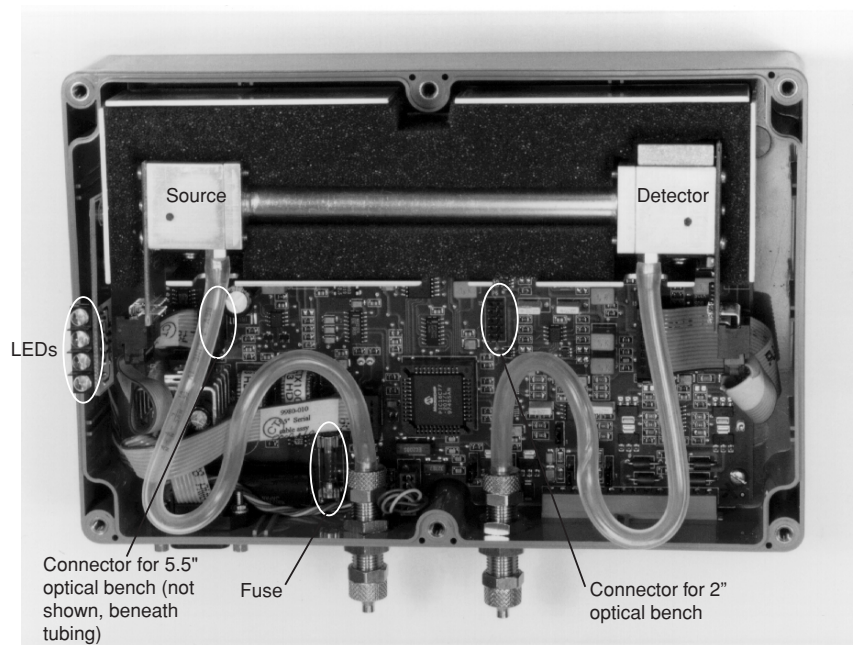

Figure 5-1. Location of 10-pin connectors for 5.5" and 2" optical benches.
3. There are ribbon cables (Figure 5-1 below) connected to the circuit boards on the source and detector housings. Pull straight out on the connector that is attached to each ribbon cable. The optical bench can now be removed from the foam casing.
To check the fuse, remove the six screws on the top of the LI-800. The fuse is located on the main circuit board, near the Flow In port, as shown in Figure 5-1. Replacement fuses (part #439-04537, in the spares kit) plug into the fuse holder; no soldering is required. Replace the fuse and reassemble the LI-800 case.